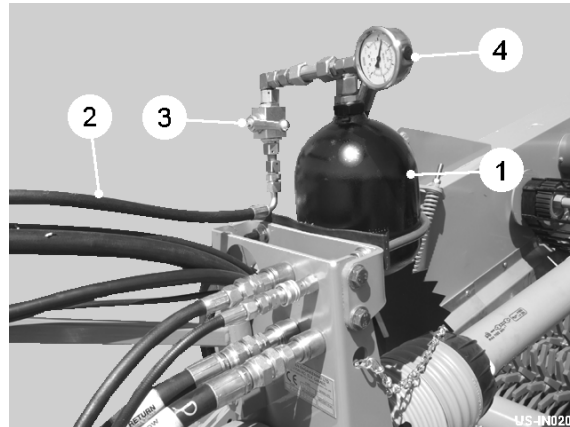

Fig 12
The hydraulically damped drawbar is fitted to protect the machine when operating in soil conditions where buried obstructions may be encountered. The system consists of a hydraulic cylinder mounted within the drawbar pressurised by an accumulator (item 1, fig 12). The design allows the drawbar to extend by 200mm. After 25mm of movement a proximity sensor triggers the control system which simultaneously lifts the digger on full flow, and stops the boulder box stars and vari-flow. After activation the machine elements have to be restarted using the control box. The drawbar must always be pressurised before commencing work.
To set the accumulator pressure, connect the hose (item 2, fig 12) to the tractor spool valve and open the accumulator valve (item 3, fig 12). Open the tractor spool valve while closely watching the pressure gauge (item 4, fig 12). When the pressure reaches 65 bar immediately close the spool valve and then close the accumulator valve. If necessary, reduce the pressure slightly using the accumulator valve. The drawbar is now pressurised and ready for operation. If in work, due to differing soil conditions, the initial setting of 65 bar is found to be too low and the drawbar is extending in normal work, increase the pressure setting by increments of 10 bar until the drawbar is static. **DO NOT EXCEED 120 BAR.** If the drawbar is still not functioning correctly when the maximum pressure is reached, consult your Standen dealer for further advice.